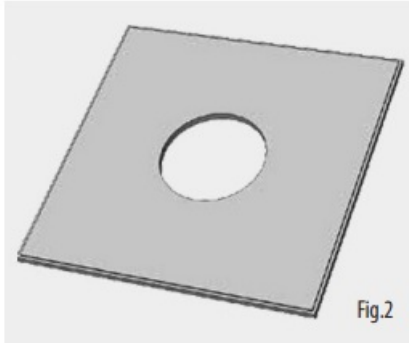
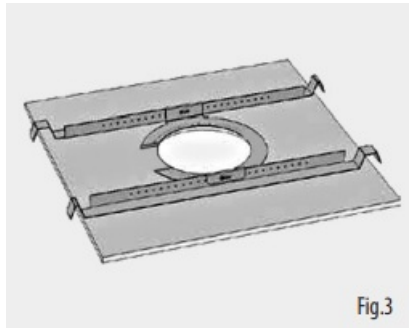

Fig.2
Fig.3
2. Cut out the hole in the ceiling tile using a circular saw or pad saw (Fig.2). Place the C-ring and tile-bridge on top of the ceiling panel, align the C-ring over the hole, and screw the C-ring to the tile bridge using the fixings provided. (Fig.3)